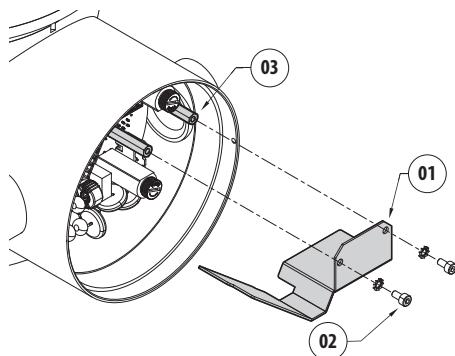
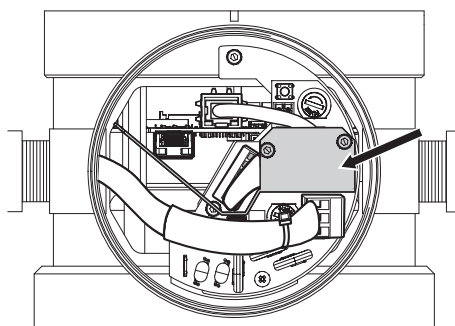

Fig. 18
Fig. 19
Fasten the barrier (01) using the specific screws and washers (02) to the prepared spacers (03) (Fig. 18, page 23 and Fig. 19, page 23).